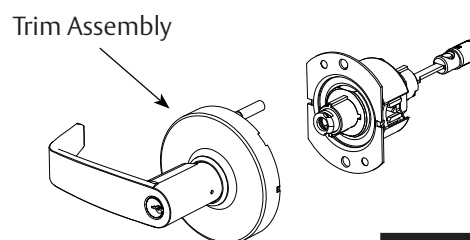

Figure 5
1. Remove trim assembly from the lockbody. (See Figure 5).